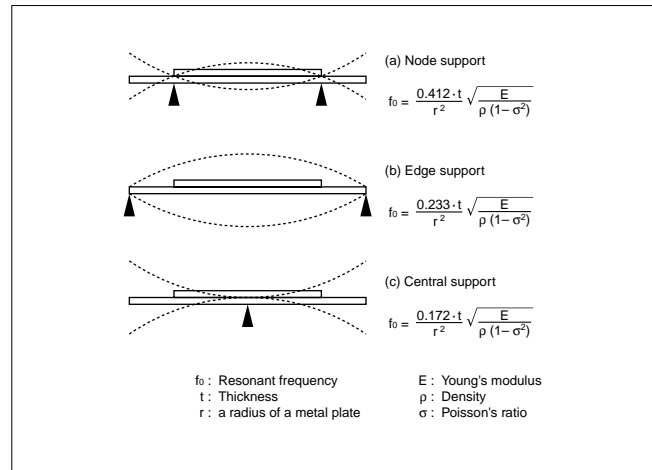
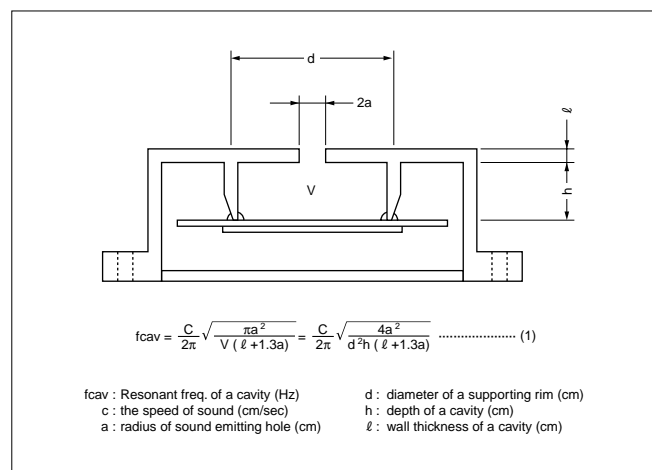

Fig. 3 Supporting method
Fig. 4 Sectional view of a cavity
In general, man's audible frequency range is about 20 Hz to 20kHz. Frequency range of 2kHz to 4kHz are most easily heard. For this reason, most piezoelectric sound components are used in this frequency range, and the resonant frequency (f_0) is generally selected in the same range too. As shown in Fig. 3, the resonant frequency depends on methods used to support the piezoelectric diaphragm. If piezoelectric diaphragms are of the same shape, their values will become smaller in the order of (a), (b) and (c). In general, the piezoelectric diaphragm is installed in a cavity to produce high sound pressure (Fig. 4). The resonant frequency (f_{cav}) of the cavity in Fig. 4 is obtained from Formula (1) (Helmholtz's Formula). Since the piezoelectric diaphragm and cavity have proper resonant frequencies, (f_0) and (f_{cav}) respectively, sound pressure in specific frequencies can be increased and a specific band width can be provided by controlling the both positions.
Fig. 9 shows a typical application of the self drive method. The piezoelectric diaphragm provided with feedback electrode shown in Fig.9 (i) is involved in the closed loop of a hartley types oscillation circuit. When the frequency is closed to the resonant frequency, the circuit satisfies oscillating conditions, and the piezoelectric diaphragm is driven with the oscillating frequency. Fig. 9 (ii) shows a simple oscillating circuit consisting of one transistor and three resistors. In general, the node support shown in Fig. 3 (a) is popular in the self drive method. Proper resonance of the piezoelectric diaphragm by the node support provides stable oscillation with high mechanical Qm of vibration but also a single high pressure tone.